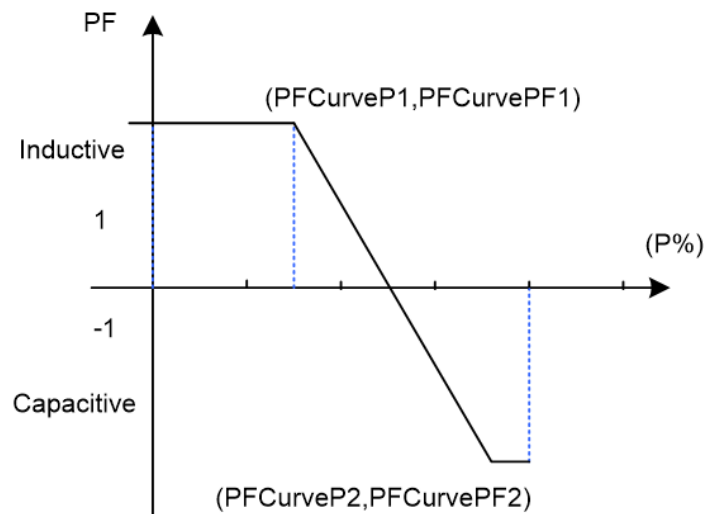

Figure 5-5 PF(P) Curve Mode
PF(P) Curve: PF curve mode. The power factor changes according to the power change (see Figure 5-5).